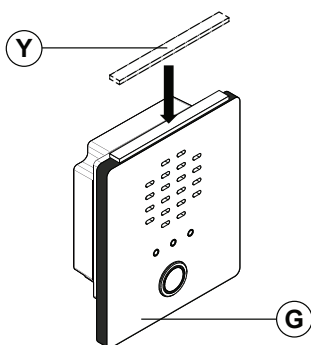
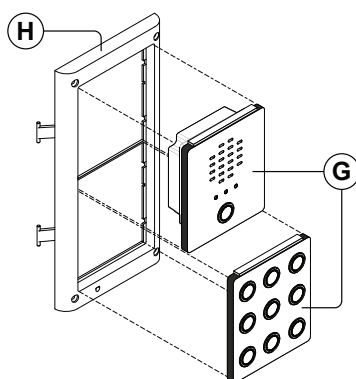
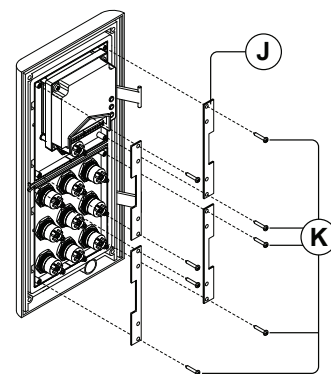

Fig. 49
Fig. 50
Fig. 51
3. Next fit the neoprene seal **(Y)** (removing the thin film first) along the top side of the module **(G)**, as shown in **Fig.49**;
4. Before installation of the module support frame **(H)** to the surface box **(C)**, fit the module **(G)** to the support frame **(H)** as shown in **Fig.50** then, as shown in **Fig.51**, fit the module fixing brackets **(J)** using the fixing screws **(K)**;
4. Follow steps 3 and 4, from 'installing a surface mounting door station', to fit the module into the module support frame (H) as shown in **Fig.49, Fig.50 and Fig.51** (on pages 29 and 30);